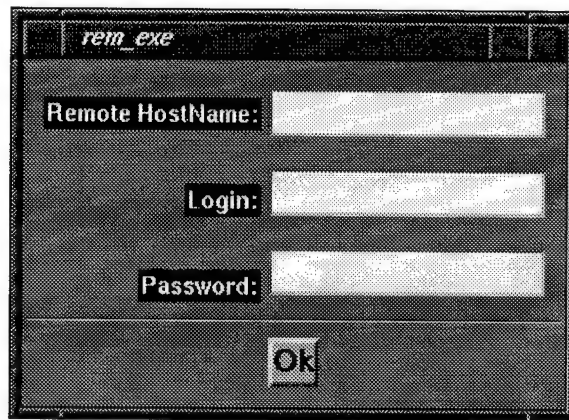

Figure 25 – The Login dialog pop-up for Remote Execution module
2. Once the 'Remote Execution' process starts, the 'rem\_exe' window pops up (Figure 25).